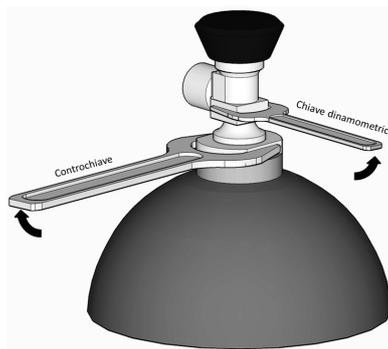

Figure 1. Use of the counter wrench to assemble/dismantle the valve
- **USE A COUNTER WRENCH:** position a counter wrench that corresponds to Table 1 on the notches (milled elements) of the boss, as shown in Figure 1. If assembling the valve, use a calibrated torque wrench. Never exceed the 100Nm torque as it could cause damage to the threading.